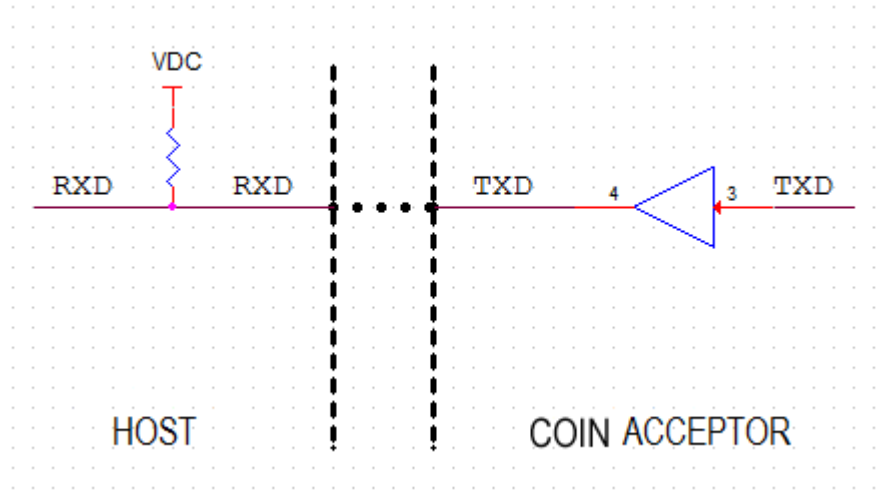

Figure 2.
(2) TTL Interface, See figure 2、3.